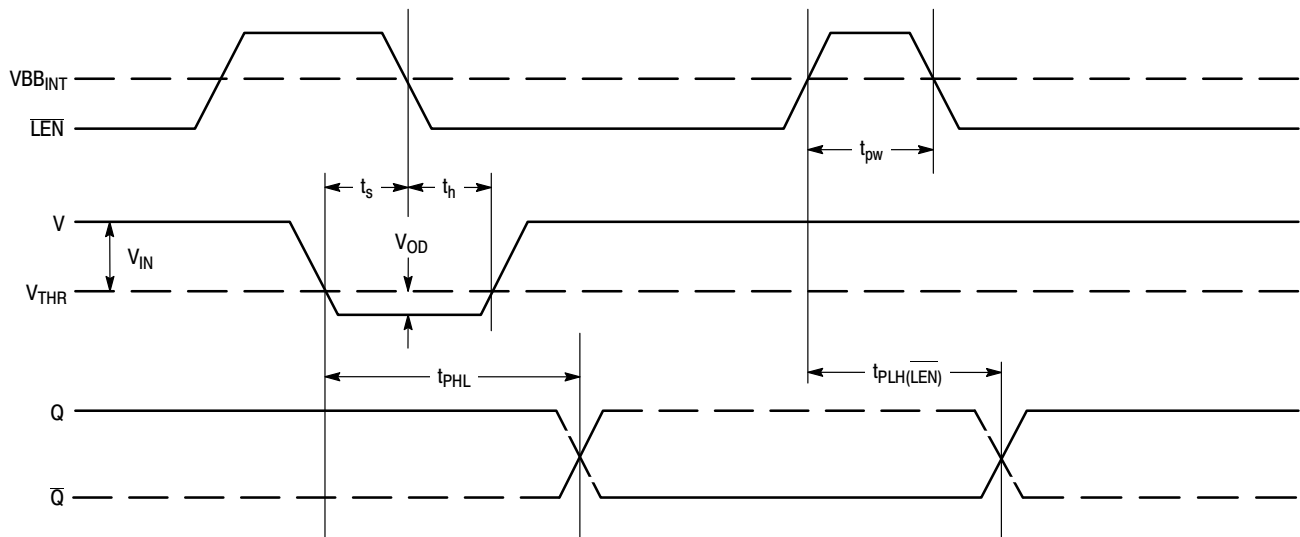

Figure 5. Input/Output Timing Diagram
12. Refer to Figure 5 and note that the input is at 2.5 V TTL levels with the input threshold range between the 20% and 80% points. The delay is measured from the crosspoint of the input signal and the threshold value to the crosspoint of the Q and \bar{Q} output signals.
The timing diagram (Figure 5.) is presented to illustrate the MC10E1652's compare and latch features. When the signal on the \overline{LEN} pin is at a logic high level, the device is operating in the "compare mode," and the signal on the input arrives at the output after a nominal propagation delay (t_{PHL} , t_{PLH}). The input signal must be asserted for a time, t_s , prior to the negative going transition on \overline{LEN} and held for a time, t_h , after the \overline{LEN} transition. After time t_h , the latch is operating in the "latch mode," thus transitions on the input do not appear at the output. The device continues to operate in the "latch mode" until the latch is asserted once again. Moreover, the \overline{LEN} pulse must meet the minimum pulse width (t_{pw}) requirement to effect the correct input-output relationship. Note that the \overline{LEN} waveform in Figure 5. shows the \overline{LEN} signal swinging around a reference labeled V_{BBINT} ; this waveform emphasizes the requirement that \overline{LEN} follow typical ECL 10KH logic levels because